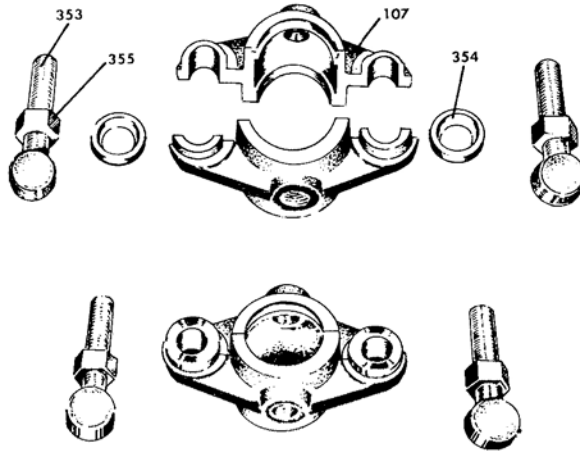

Figure 19:
- e) Insert gland packing (210) into recess in each gland half and trim off excess flush with face of each gland half.
- f) Run ½"-13 UNC nuts (355) about threefourths the length of the threaded part of bolts (353) and place cupped washers (354) on gland bolts. (See Figure 19: on page 27.)
- g) Insert lower half gland (107) into stuffing box.